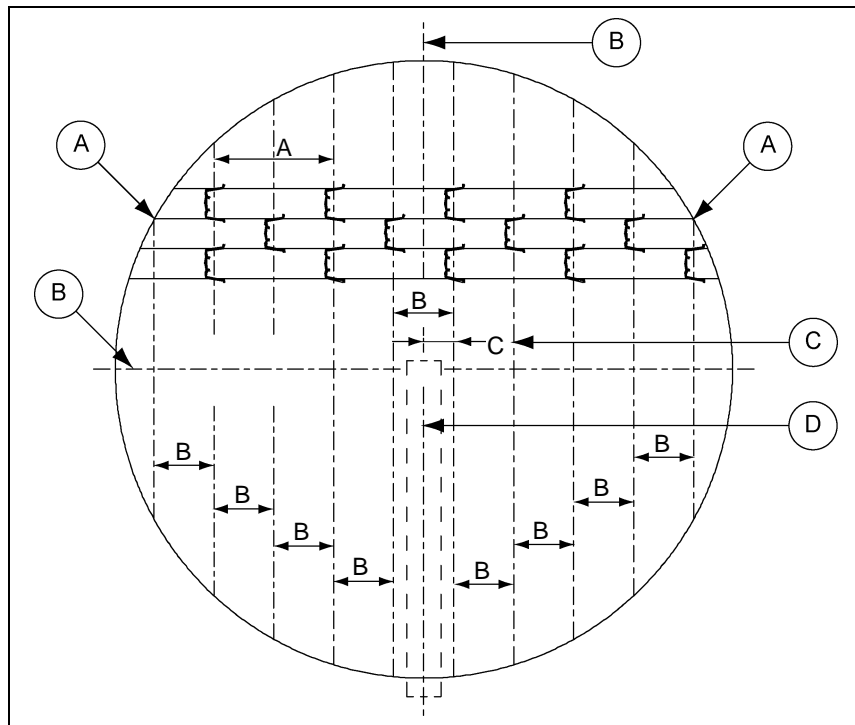

Figure 4B
Using the GSI recommended method for full floor installation should save construction time and eliminate the problem of improper installation which could invalidate your warranty. Note the following dimensions as shown in Figure 4B.
1. Layout centerlines of tank. Make sure one centerline is in line with the direction of the flooring planks while the other centerline is perpendicular with the flooring planks. (See Figure 4B.)
2. From the centerline that is perpendicular to the flooring planks, measure the distance of “C” Dimension and mark a chalk line. (See Figure 4B.)
3. From the line chalked in the previous step, measure over the distance of “B” Dimension and chalk another line. Repeat this procedure across the bin until reaching the wall in both directions. When completed, there should be a set of parallel lines (perpendicular to the floor planks) with “B” Dimension distance between each line. (See Figure 4B.)